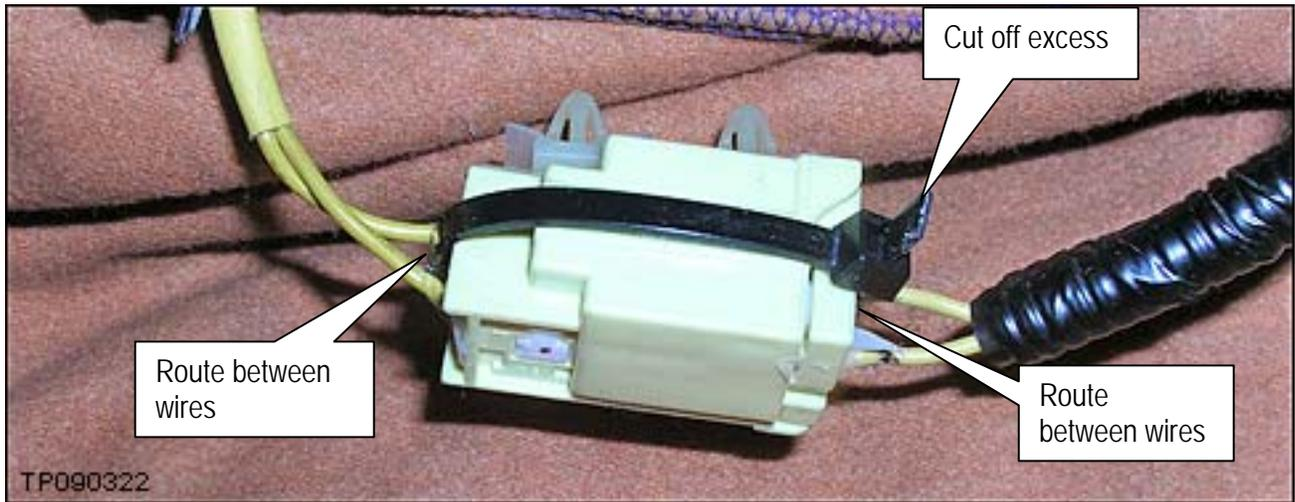

Figure 7
13. Install a tie-wrap (P/N 24216 – W1000) around the connector as shown in Figure 7.